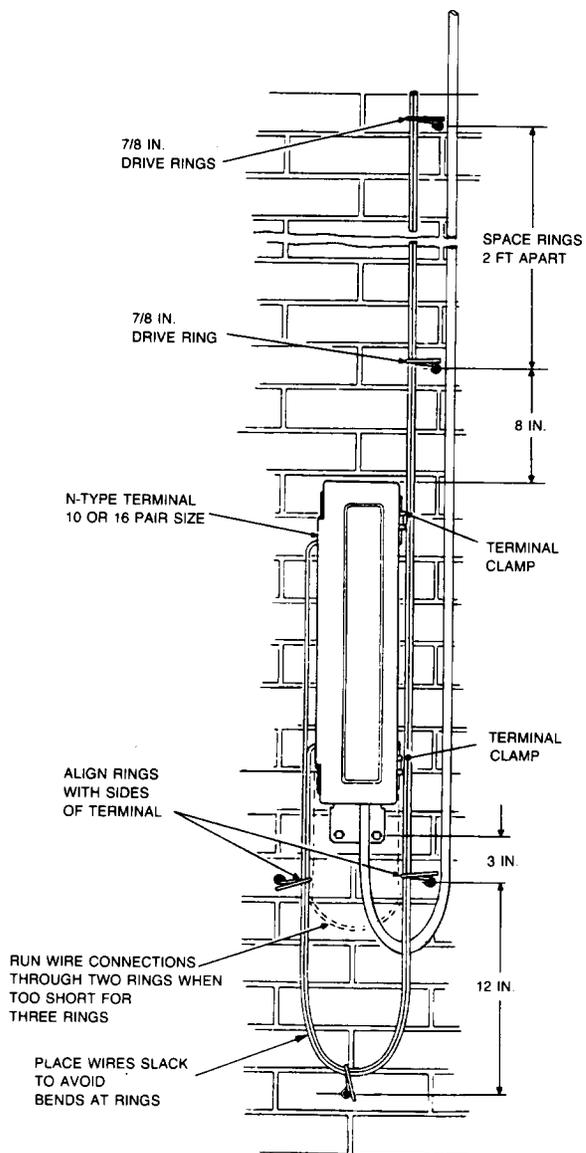

Fig. 20 - Wall-Mounted 10- or 16-Pair Cable Terminal
5.01 The wiring arrangements at wall-mounted terminals is very much like the arrangements at strand- and pole-mounted terminals, and should always be done in a neat and orderly fashion. Refer to Fig. 20 through 25 for arranging drop and block wires at wall-mounted terminals.